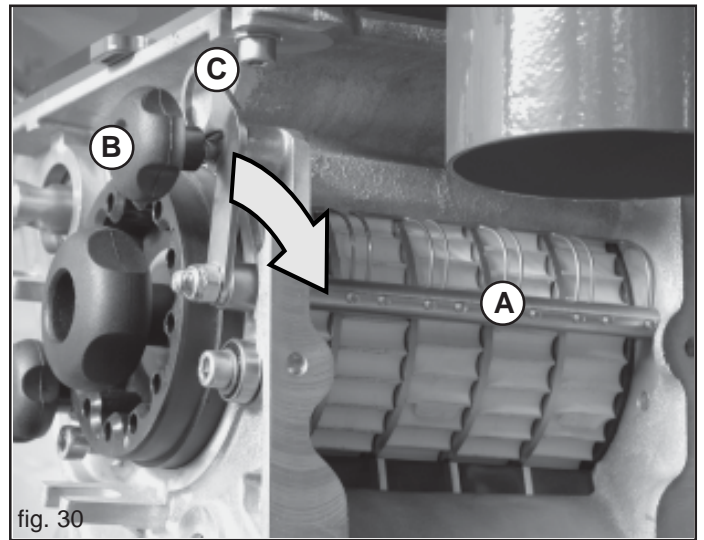

fig. 30
Cleaning spring elements (A, Fig. 30) are used during the distribution of oily seeds by means of the yellow seeding roller, mod. F25-125.
... loosen the knob (B, Fig. 30), remove the levers (C) from their housing and move them in the direction shown by the arrow.
- 1) Loosen and remove the knob (B, Fig. 30). Then, move the lever (C) in the direction shown by the arrow.